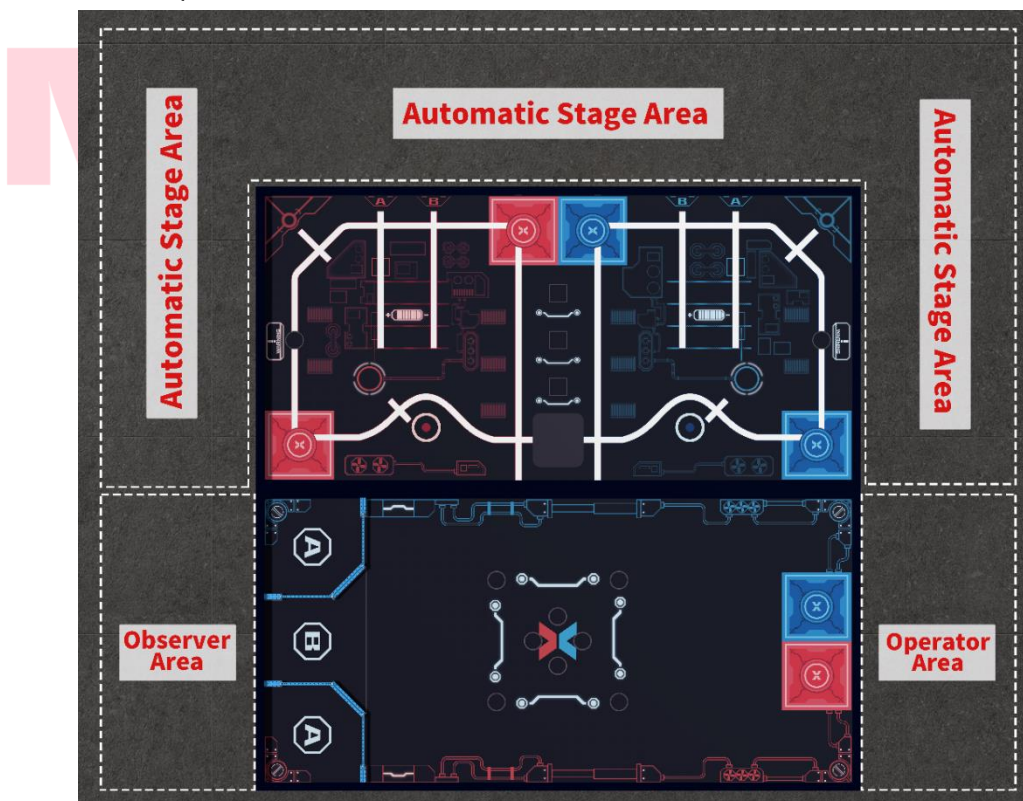

Fig 5.1 Operation Area
- R10. During the automatic stage, the contestants can compete in the following area (shown by figure 5.1). The dimension of area may vary according to the actual size of the competition venue.
- R11. In the manual stage, an operator and an observer for each team are required to compete in the following area (shown by figure 5.1). The contestants are not allowed to compete outside the specific operating area. If there is only one contestant in the team, one specific competition role should be selected to participate in the competition. The dimension of area may vary according to the actual size of the competition venue.